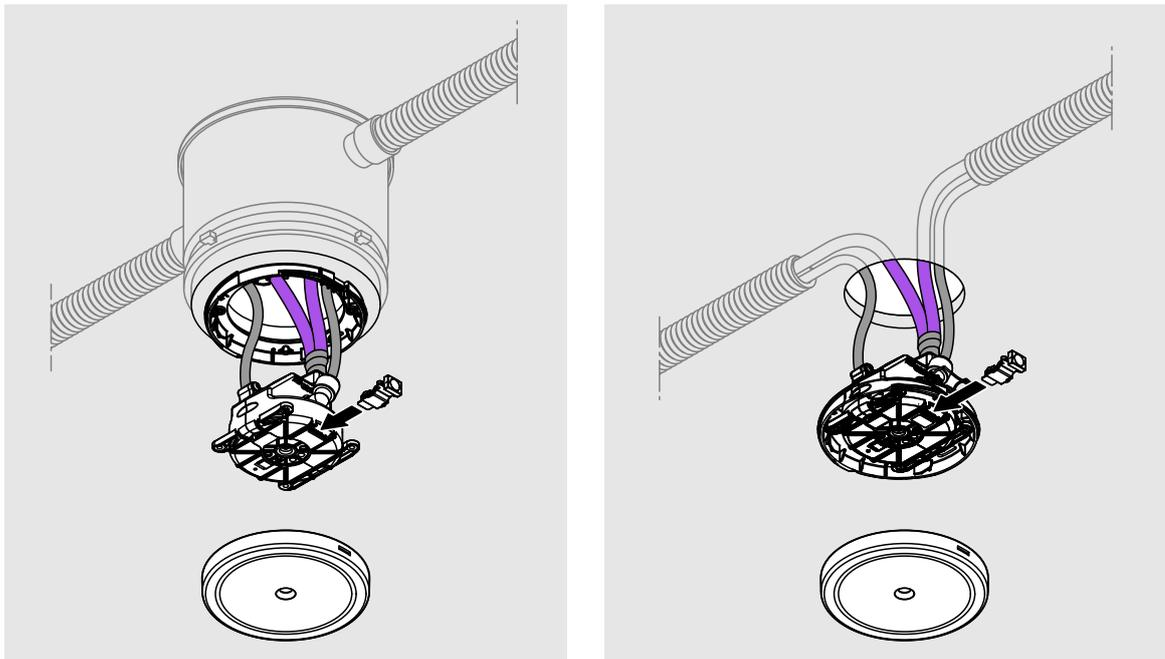

Fig. 100: Replacing the humidity sensor (screwed spray head version on the left, pluggable spray head version on the right)
3. Loosen the two screws (screwed version only, see Fig. 100 left).